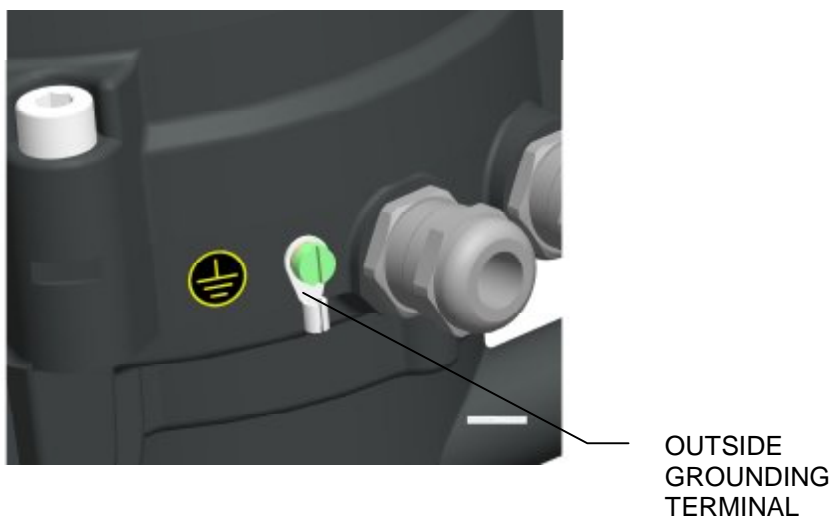
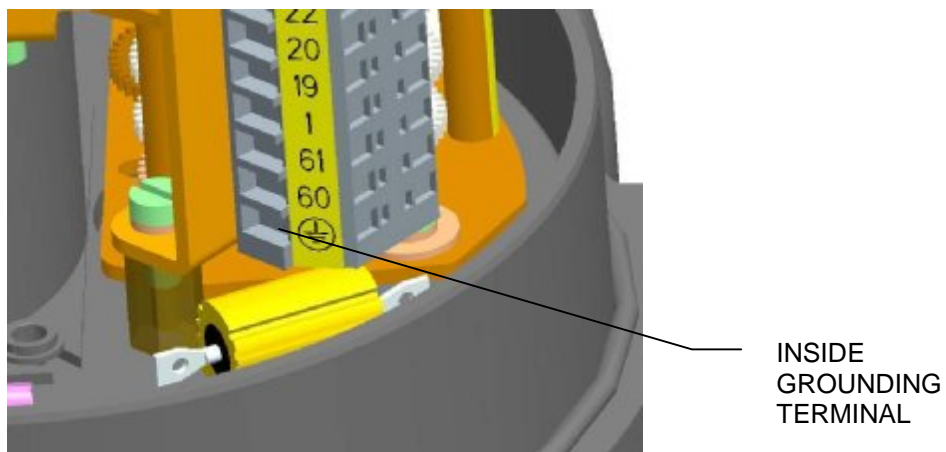

Fig.1c
Fig.1d
- for safe use of the actuator it is necessary to connect the outside and inside grounding terminal. The position of the outside and inside grounding terminal can be seen in Fig. 1c and Fig. 1d. HP3 insulated eyelet crimping pliers should be used to crimp wire to the outside grounding terminal (fy CEMBRE).